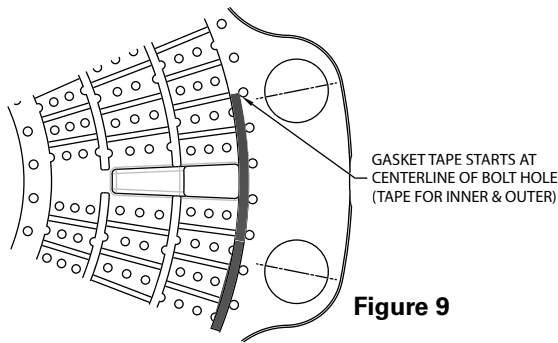

Figure 9
- (a) Start with the sealing area nearest to the inner diameter on the IRON. Remove the adhesive backing on the gasket tape a little at a time to prevent the adhesive from picking up dirt during installation. Start by positioning one end of the tape at the center-line of a bolt hole as shown in Figure 9, using the edge of the water cavity as a guide, as shown in Figure 10-B. Proceed to apply the tape on the sealing surface following a smooth circular path, being sure to press the tape in place.